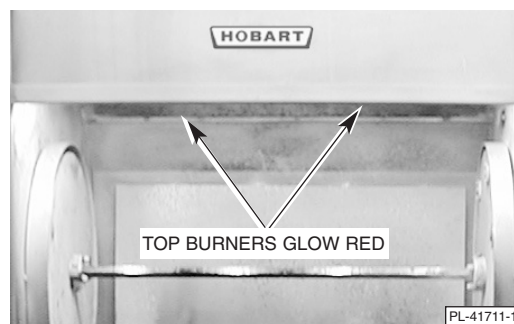

Fig. 29
- Check the burners in the top of the cavity (Fig. 29) to ensure burners are lit and beginning to glow red.